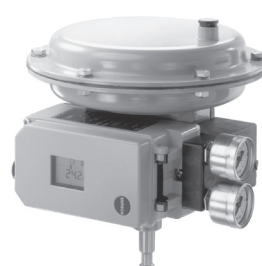
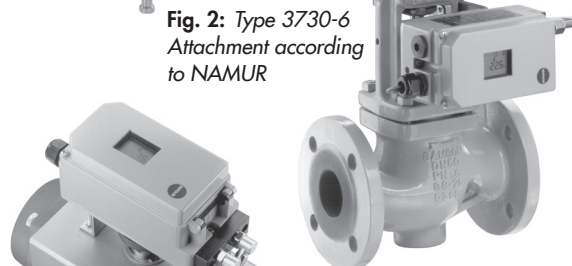
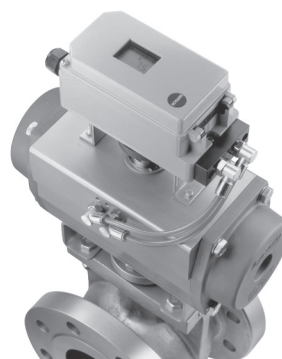

Fig. 1: Type 3730-6
Fig. 2: Type 3730-6
Fig. 3: Type 3730-6
- Simple attachment to common linear and rotary actuators with interface for SAMSON direct attachment (Fig. 1), NAMUR rib (Fig. 2) or valves with rod-type yokes according to IEC 60534-6-1, or to rotary actuators according to VDI/VDE 3845 (Fig. 3)